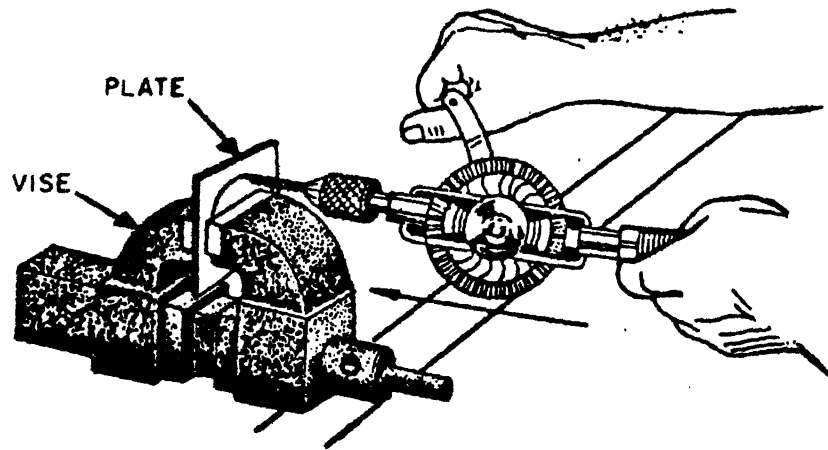

FIGURE 11
See figure 11.
- a. Using the hand drill fitted with a No. 30 twist drill, drill only ONE of the six center-punched marks on the circle. See figure 11.